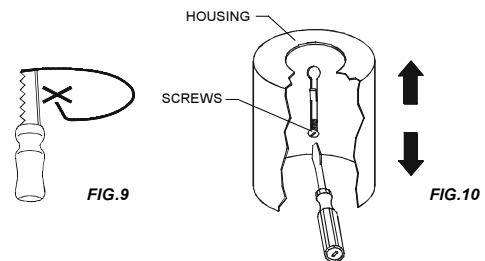

FIG. 9
1. Cut a hole in the ceiling (3-3/4" for Model 302 or 4-3/4" for Model 402), using the mounting frame as a template (if applicable). (Fig.9)